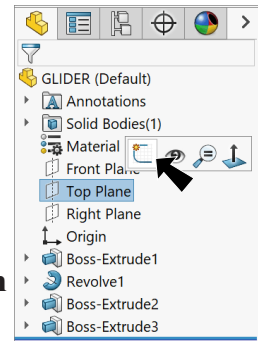

Fig. 33
Step 1. Click **Top Plane**  in the Feature Manager and click **Sketch**  on the context toolbar, **Fig. 33**.